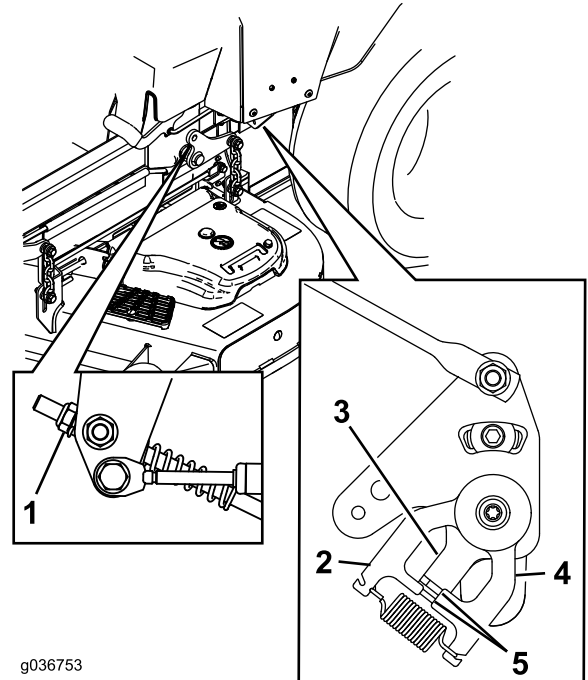

Figure 105
11. Adjust the pump-control-rod lengths by turning the nut in the appropriate direction until the wheels slightly creep in reverse (see Figure 105).